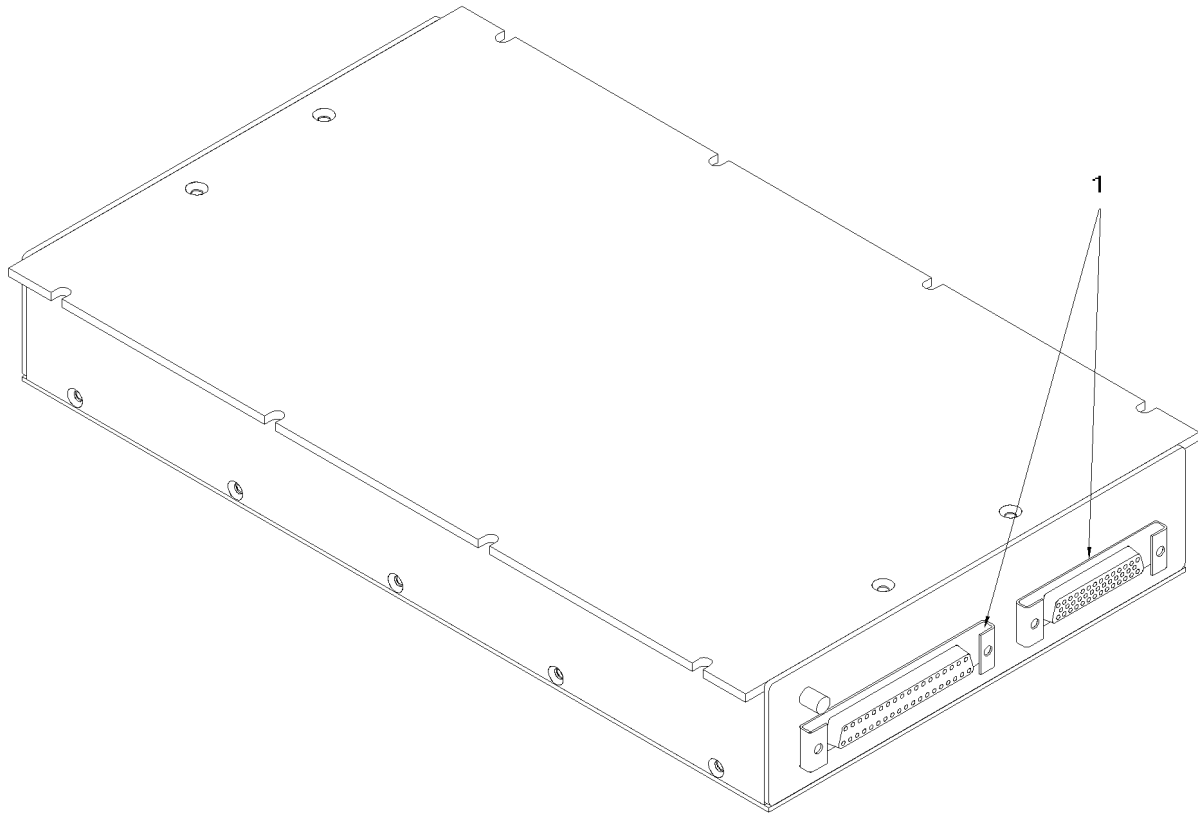

Figure 2 (Sheet 1 of 1)
- (12) Remove and discard the DSUB locking clips (1, Figure 2) from DSU connectors 39A10J01 and 39A10J02.